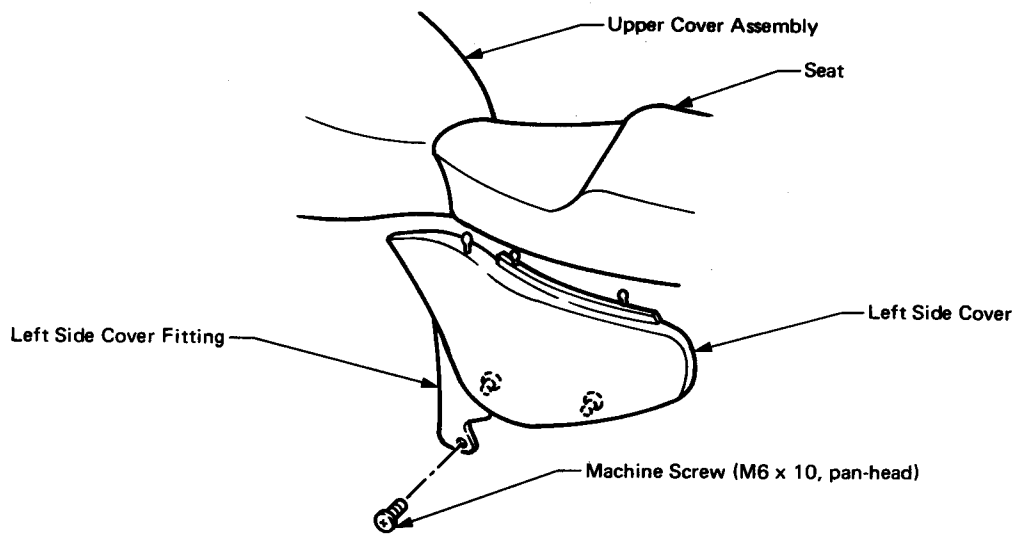

Fig. 4
- 4.** (1) Remove the Machine Screw and then the Left Side Cover, as shown in Fig. 4 (pull first towards you, and then push down).